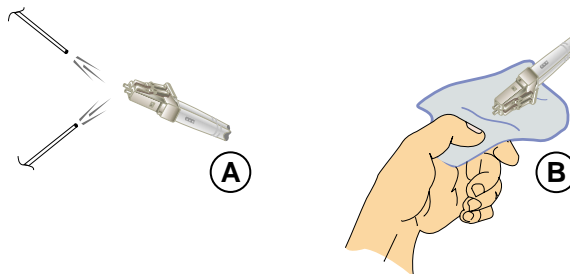

Figure 4-20 Clean Fiber-Optic Components
2. Disconnect the fiber-optic cable from the transceiver. Use compressed air to blow any contaminants from the connector as shown in part A of Figure 4-20.
3. Gently wipe the end-face and other surfaces of the connector with an alcohol pad as shown in part **B** of Figure 4-20 on page 4-28. Ensure the pad makes full contact with the surface to be cleaned. Wait approximately five seconds for cleaned surfaces to dry.